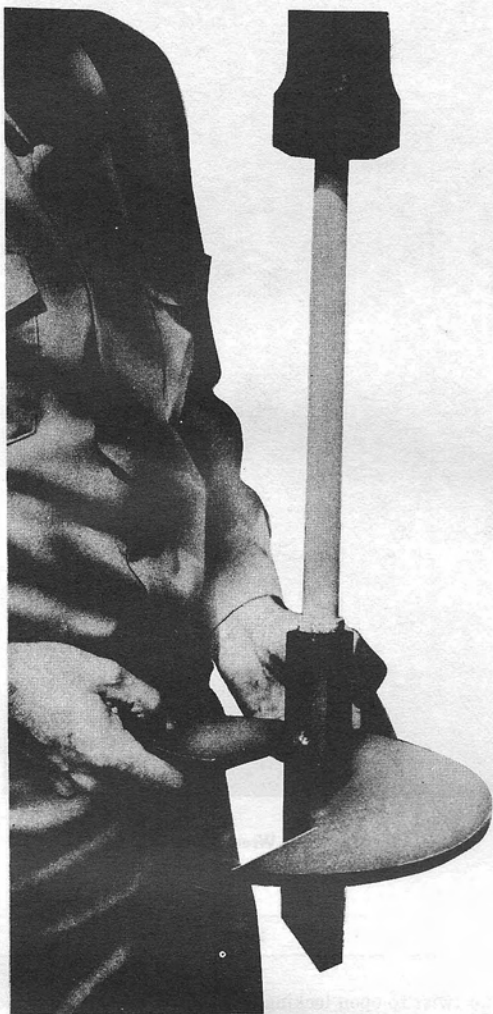

Fig. 9—Attaching Anchor to Drive Assembly
- 4.05 Place the anchor rod into the tubular drive wrench as shown in Fig. 9.†